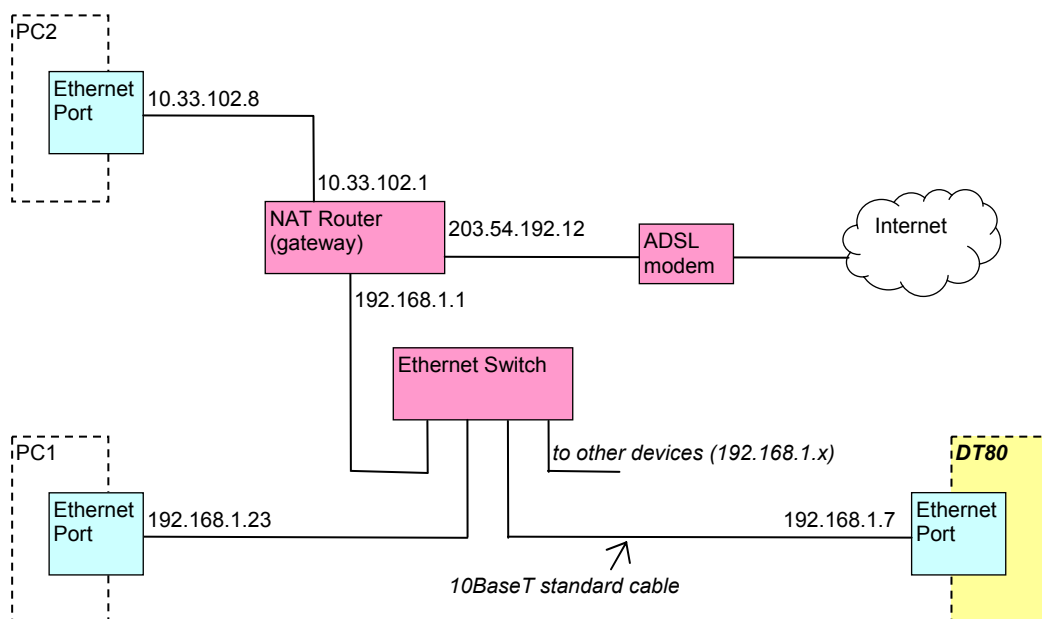
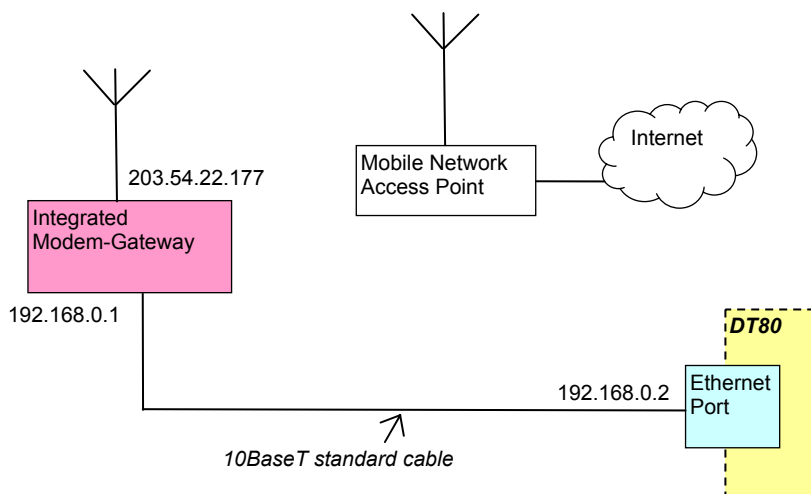

Figure 80: Typical Ethernet LAN
Figure 81: Typical Internet connection using an integrated modem-gateway (wireless modem in this case)
- whether the *DT80* will connect directly to a PC (Figure 79), or connect to an existing LAN (Figure 80), or connect to a modem/gateway (Figure 81)